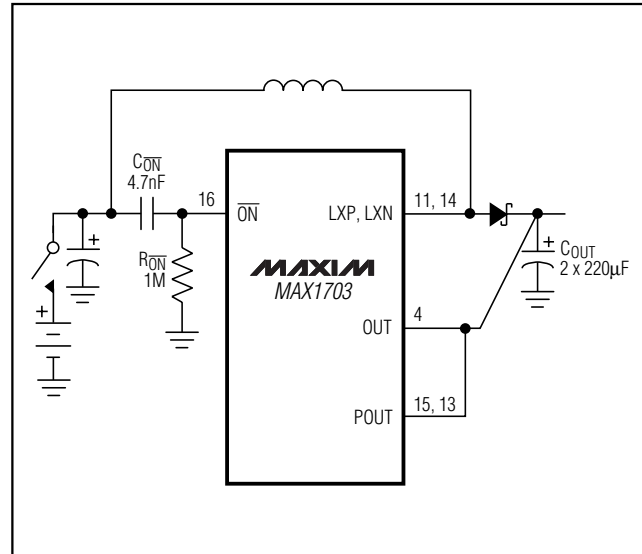

Figure 7. Connecting $C_{\overline{ON}}$ and $R_{\overline{ON}}$ when Switch or Battery-Contact Bounce is Anticipated
- 1) Connect a capacitor ($C_{\overline{ON}}$) from \overline{ON} to V_{IN} and a 1M Ω resistor ($R_{\overline{ON}}$) from \overline{ON} to GND, as shown in Figure 7. This resistor-capacitor network differentiates fast input edges at V_{IN} and momentarily holds the IC off until V_{IN} settles. The appropriate value of $C_{\overline{ON}}$ is 10^{-5} times the total output filter capacitance (C_{OUT}), so a C_{OUT} of 440 μ F results in $C_{\overline{ON}} = 4.7$ nF.